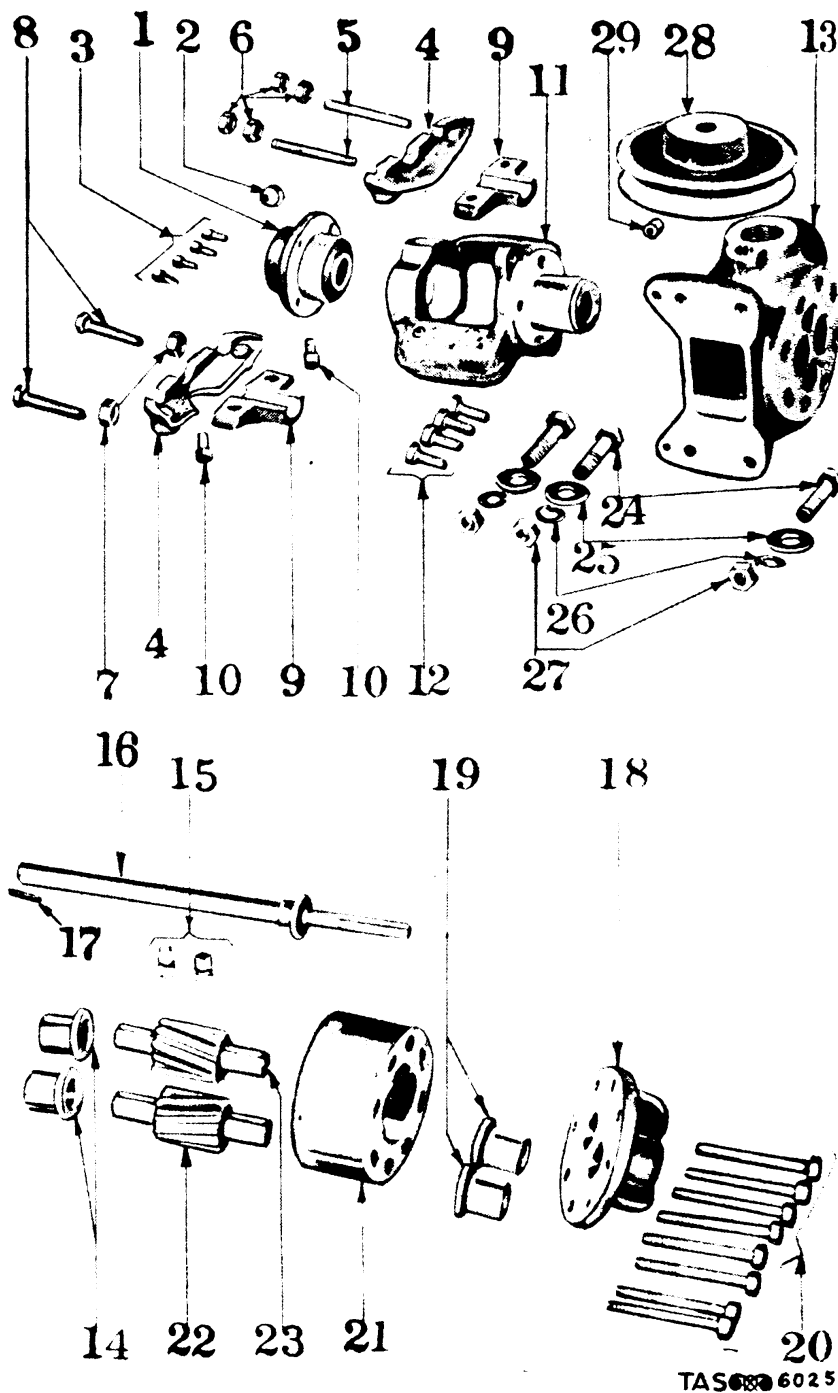

Fig. 25. Water Pump.
(2) Components of the pump are shown in figure 25. It is a rotary gear-type pump.
g. Water discharge line check valve. (1) The chief function of this valve is to make possible the flushing and cleansing of the coil assembly following each run of the generator.